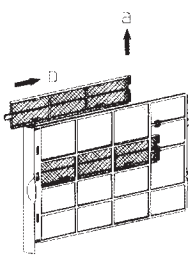

Figure 15
- Remove the 2 purifying filter frames from the main filter (See Figure 15).
PURIFICATION FILTER REPLACEMENT (See Figures 15, 16, 17)
- Remove the two purifying filter frames from the main filter (See Figure 15).